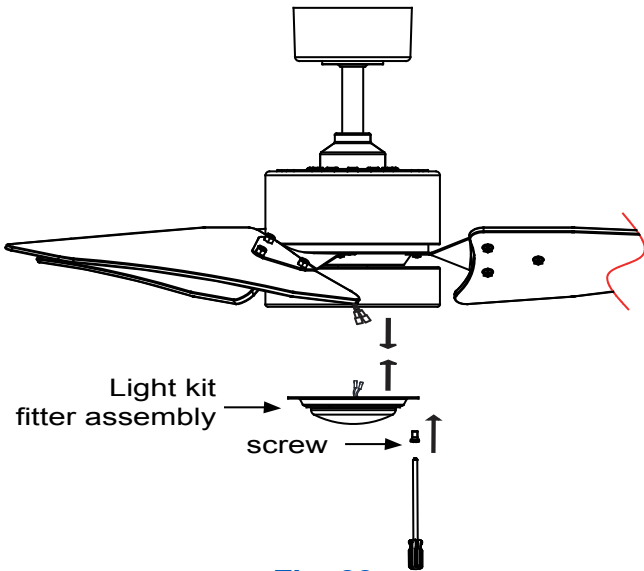

Fig. 20
**Step 1.** Remove one screw from the light kit pan, and loosen, but do not remove the other two screws. (Fig. 20)
**Step 2.** Connect the blue wire exiting the bottom of fan motor assembly with the black wire from the top of the light kit fitter assembly. (Fig. 20)
**Step 3.** Connect the white wire exiting the bottom of fan motor assembly with the white wire from the top of the light kit fitter assembly. (Fig. 20)
**Step 4.** Push the light kit fitter assembly up to the light kit pan so that the two loosened screw heads fit into the keyholes slots. Turn the light kit fitter assembly clockwise to secure. (Fig. 20)
**Step 5.** Re-install the screw that was removed in step 1. (Fig. 20)